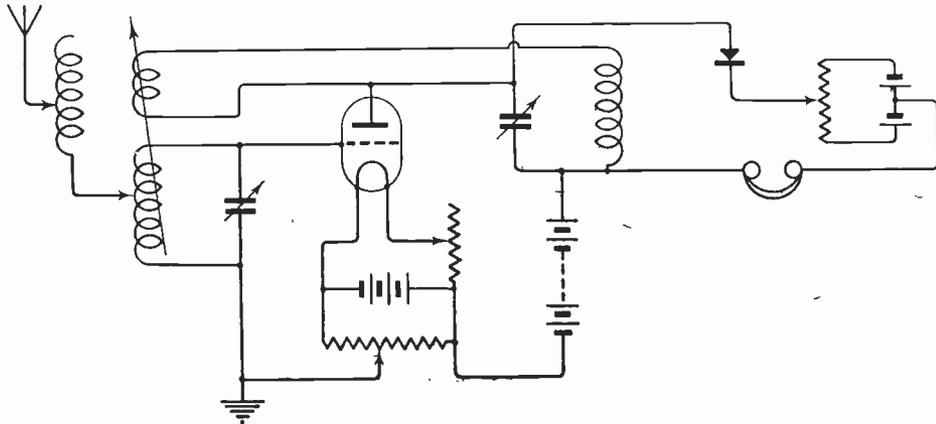

Fig. 5.
(1) and (2) The whole set is of very indifferent type. It should be rearranged as in the diagram (Fig. 5). At least 45 volts should be used with an "R" valve.